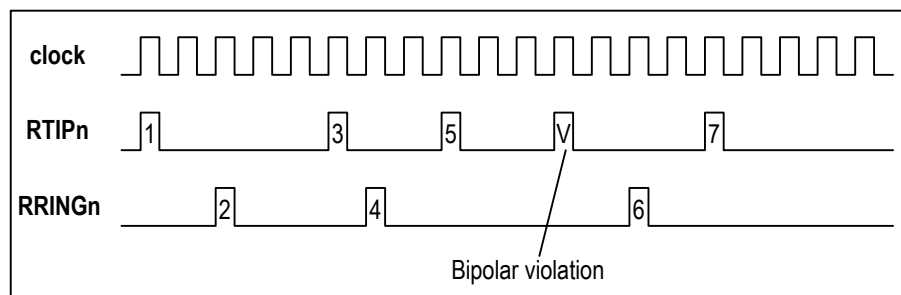

Figure 8. AMI Bipolar Violation Error
- Bipolar Violation (BPV) Error: When AMI line code rule is used, the BPV error will be detected if two consecutive pulses are received with the same polarity (refer to Figure 8). The event of the Bipolar Violation (BPV) Error is forwarded to the Performance Monitor.
- B8ZS Code Violation (CV) Error: When B8ZS line code rule is used, a CV error is detected when the received code does not match the standard B8ZS line code pattern (expect the Excessive Zero error).